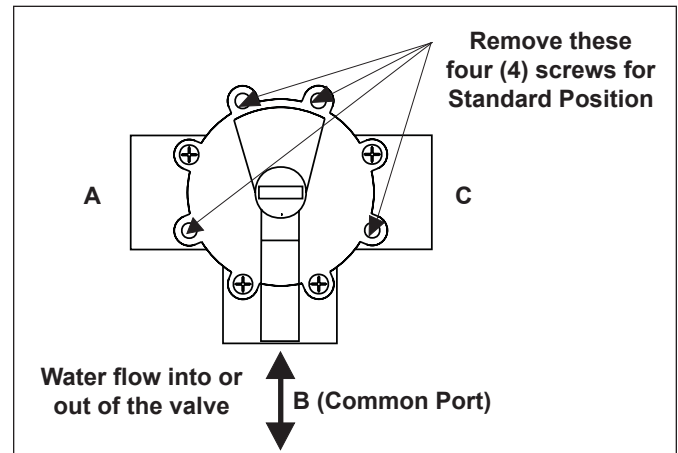

Figure 1. Standard Plumbing
Standard Plumbing position is with the middle port (B) as the incoming or common port to the valve (see Figure 1).